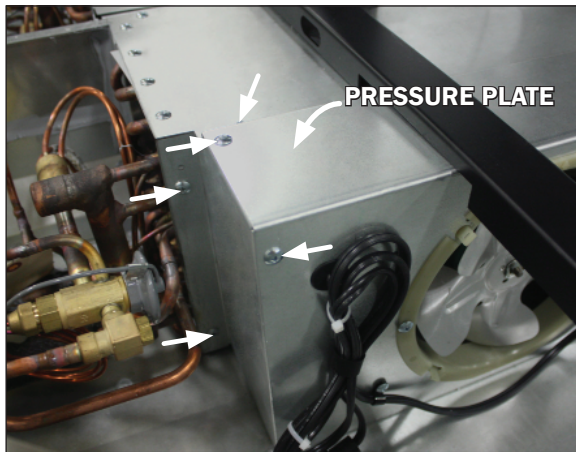

Fig. 20 Pressure plate screw locations
3. Once the support brackets are removed the underside of the fans can be accessed by removing the screws on the back, top and front sill of the pressure plate cover (Fig. 20). Lift the pressure plate with help of the provided lift handles (Fig. 21). **Note: It is recommended that more than one person lift the pressure plate.**